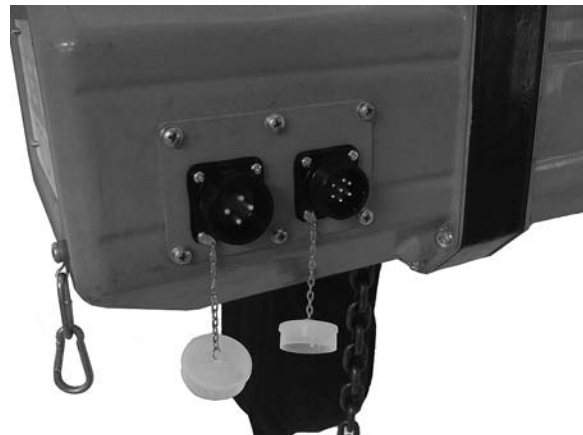
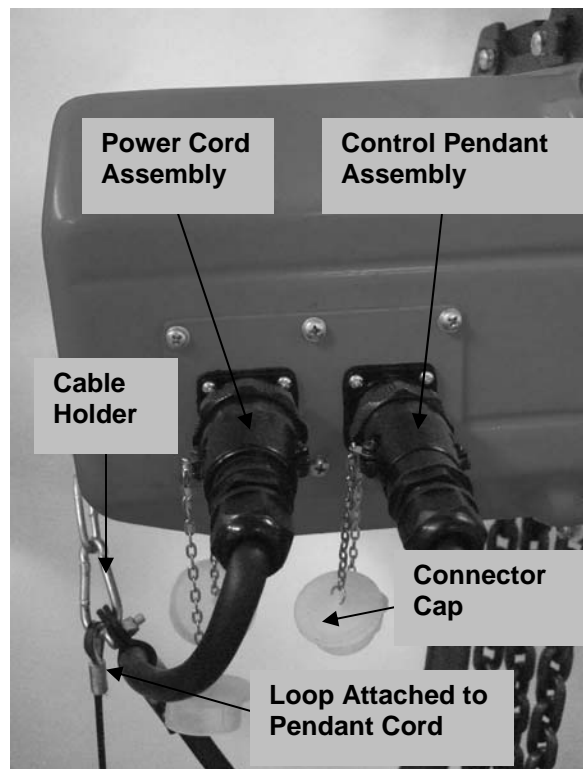

Figure 2
Figure 3
2. Open the connector caps on the two female connectors (Figure 2) and two male plugs (Figure 3).
3. Check orientation of notches on the female connectors and male plugs, and correctly insert the 4p plug into the 4p female connector on the left, insert the 7p plug into the 7p female connector on the right with sufficient force (see Figure 3).